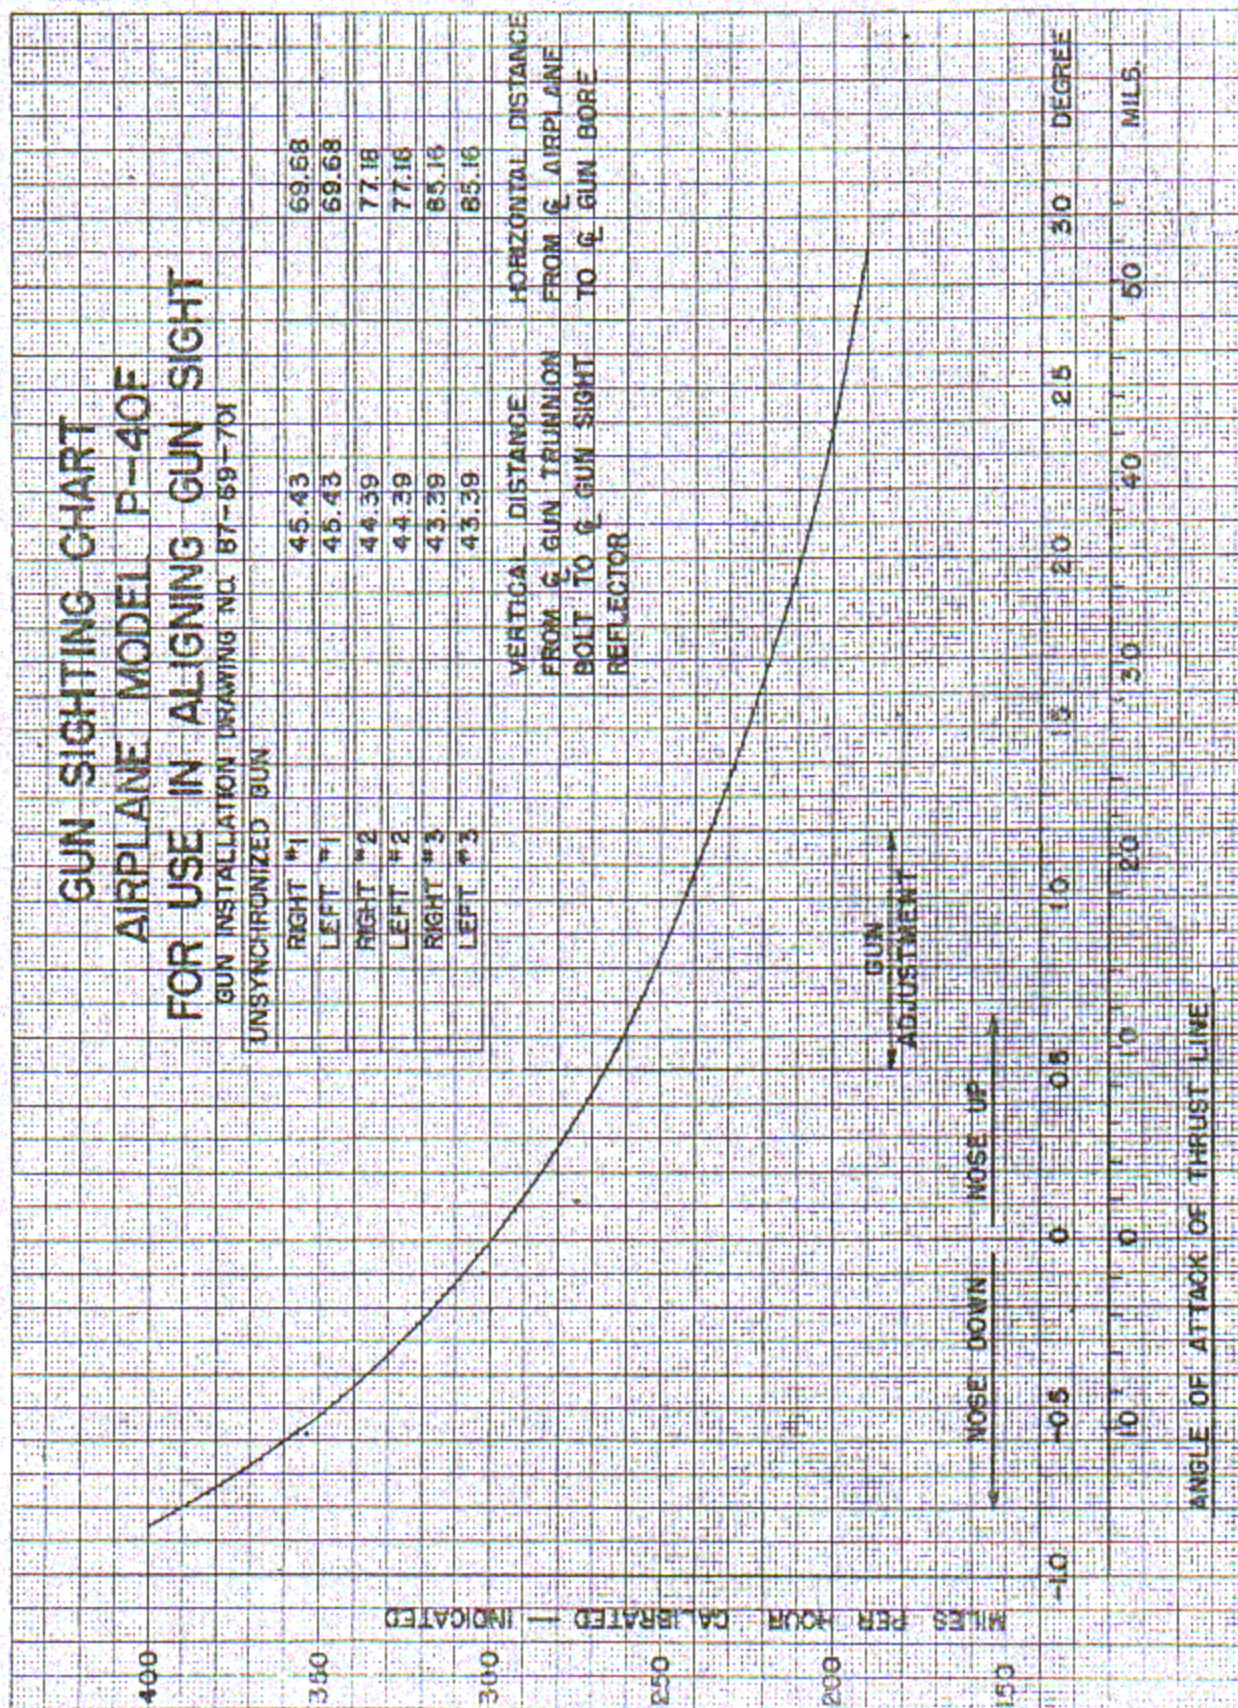

Fig. 102 - Gun Sighting Chart
g. Gun Adjustment. - Horizontal and vertical gun adjustments are made at the rear gun mount. Vertical adjustments are made by loosening the two locking bolts which clamp the serrated locking plates in position. Move the gun up or down to desired setting and tighten bolts to clamp serrated plates in position. Horizontal adjustments are made by loosening the two set screws holding the rear gun mount adapter in place on the lateral adjusting sleeve and by turning the rear mount bolt until the required setting is obtained. Hold in position by tightening the set screws. The guns may be adjusted vertically from parallel to the line of flight of the airplane at high speed at best performing altitude with full load less 1/2 of the fuel load to parallel to the line of flight at 11.5% below the high speed under the same conditions, all settings being corrected in accordance with H39G3939. The vertical gun settings, angles with respect to the gun leveling lugs are 100% high speed muzzle down 0°07' and 88.5% high speed muzzle down 1°14'. The guns may be adjusted laterally from parallel to center line of fuselage to the convergence of fire at 200 yards (equals 0°37' inboard to a line parallel to the center line of the airplane). The adjustments for various flying conditions are given on the gun sighting chart, Figure 102.